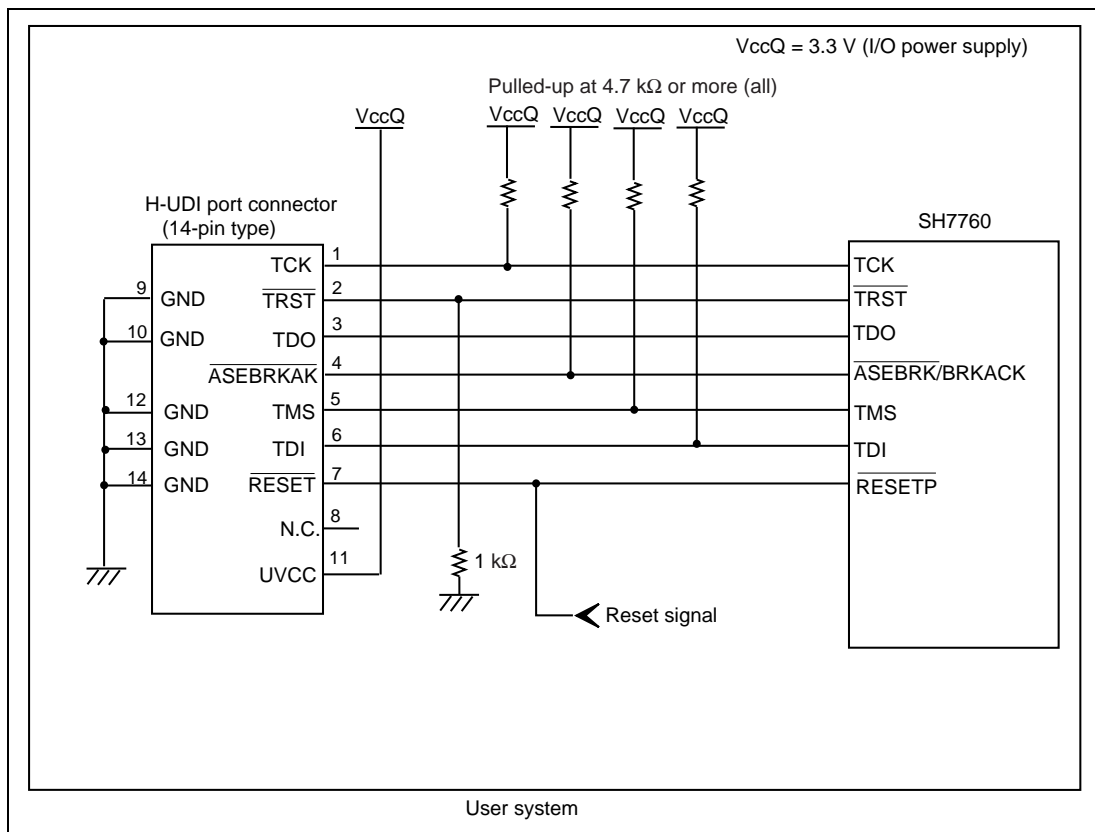
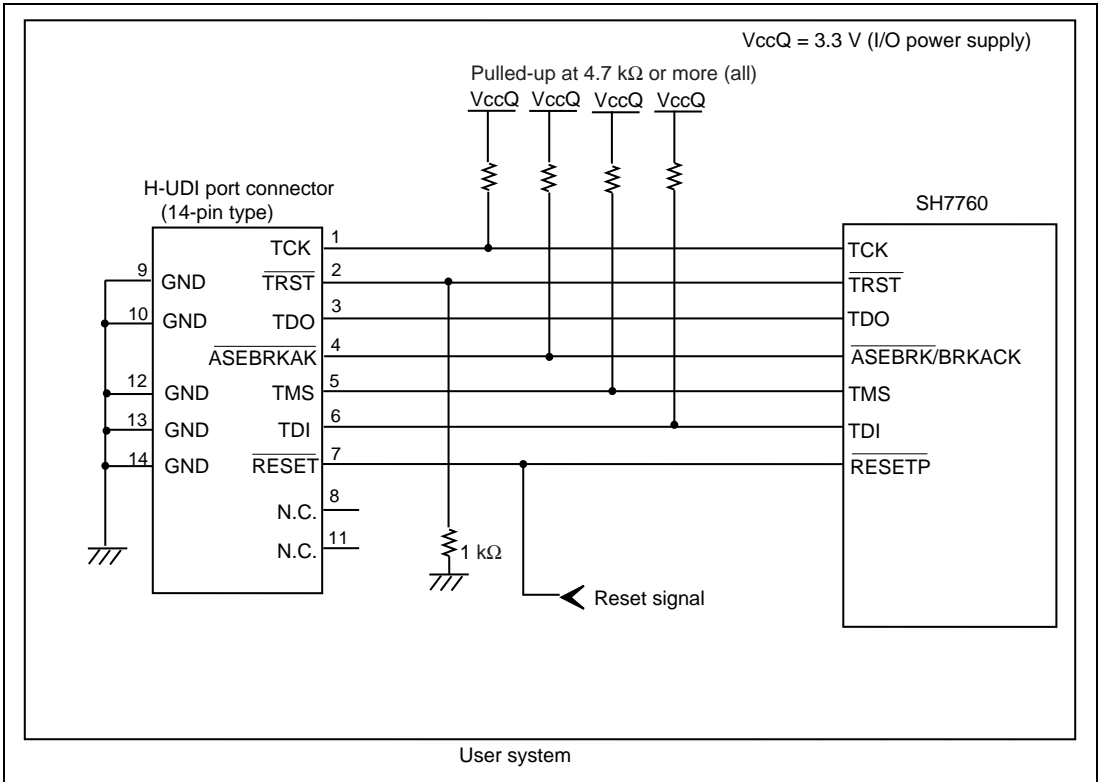

Figure 1.5 Recommended Circuit for Connection between the H-UDI Port Connector and MPU when the Emulator is in Use (14-Pin Type UVCC Connected)
Figure 1.6 Circuit for Connection between the H-UDI Port Connector and MPU when the Emulator is in Use (14-Pin Type UVCC Not Connected*)
Figure 1.5 shows a recommended circuit for connection between the H-UDI and AUD port connectors (14 pins) and the MPU when the emulator is in use. Figure 1.6 shows a circuit for connection when UVCC is not connected.
4. When the power supply of the user system is turned off, supplying VccQ of the user system to the UVCC pin reduces the leakage current from the emulator to the user system. A level shifter that is activated by the internal power supply or user power supply (changed by the switch) is installed in the interface circuit of the emulator. If the user power is supplied to the UVCC pin, the level shifter is not activated as long as no user power is supplied. When the power supply of the user system is turned off, no current flows from the user interface. The I/O voltage level of the user system interface can be the same as that of the VccQ. To operate the emulator with low voltage (lower than 3.3 V), the VccQ must be supplied to the UVCC pin. Make the emulator's switch settings so that the VccQ will be supplied (SW2 = 1 and SW3 = 1) (as shown in figure 1.5).
5. The resistance values shown in figures 1.5 and 1.6 are recommended.
When the circuit is connected as shown in figure 1.5, the switches of the emulator are set as SW2 = 1 and SW3 = 1. For details, refer to section 3.8, Setting the DIP Switches, in the SuperH™ Family E10A-USB Emulator User's Manual.
When the circuit is connected as shown in figure 1.6, the switches of the emulator are set as SW2 = 0 and SW3 = 1. For details, refer to section 3.8, Setting the DIP Switches, in the SuperH™ Family E10A-USB Emulator User's Manual.